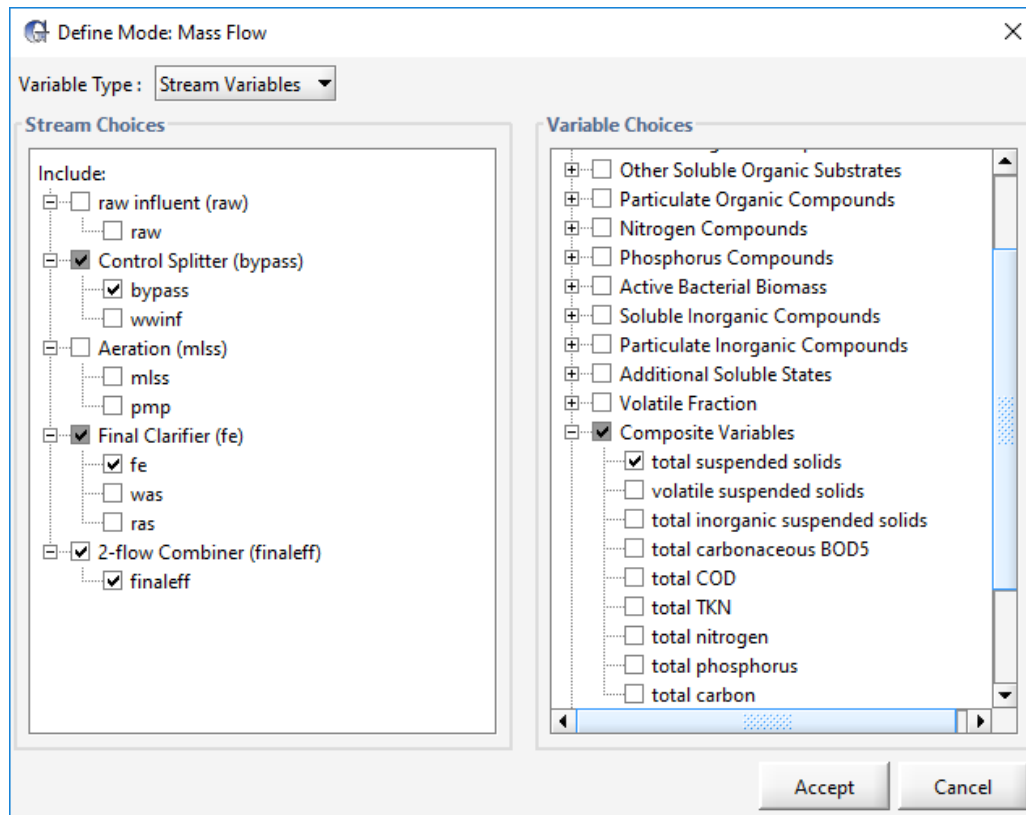

Figure 8-5 – Define Mass Flow Wizard
6. **Select the streams** (as shown in **Figure 8-5**):
7. **Select the variable.** As shown in **Figure 8-5**, select **Composite Variables > total suspended solids**.